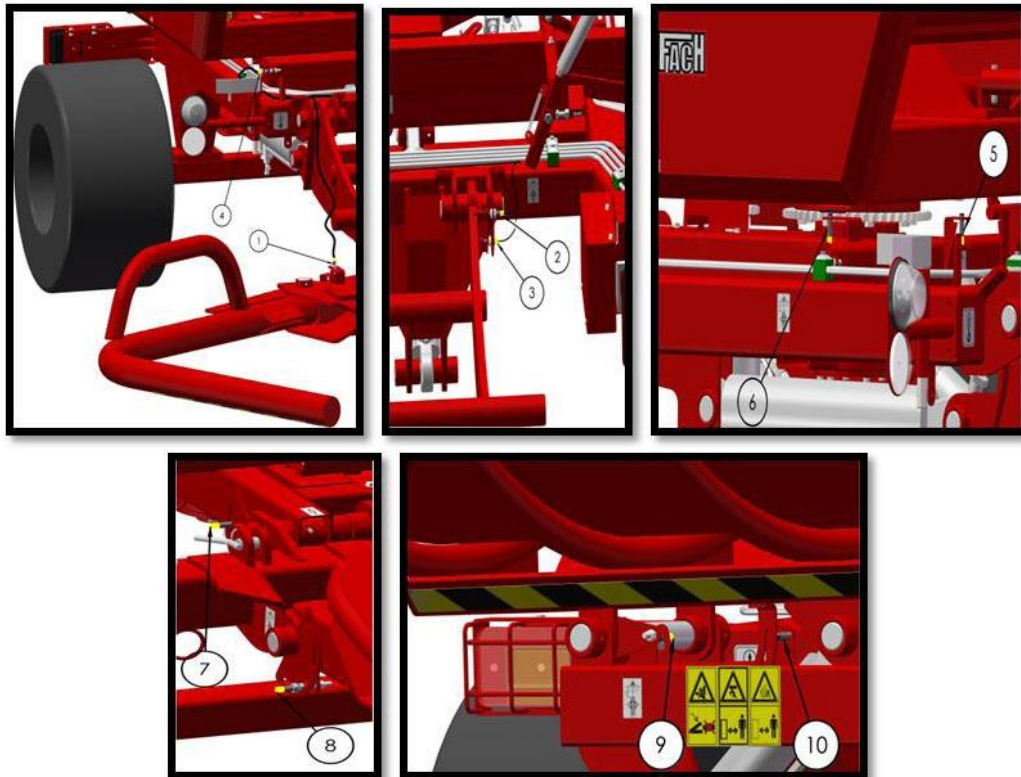

Fig. 10. Location of induction sensors.
Locations of sensors is marked on the machine and in fig. 10, chapter 5.1.
Adjust the sensor responsible for counting revolutions and stopping the turntable (Fig. 10 item 5) when the turntable is positioned in parallel to the front beam of main frame. The activator's bolt head shall be placed approx. 5-10 mm to the right of the sensor. This is due to the inertia of turntable with a bale. If the sensor activated when the turntable is placed in parallel to frame, the brake response time would lead to an incorrect stop position. In such a situation, manually perform a free turn of the turntable and stop it at the correct position.